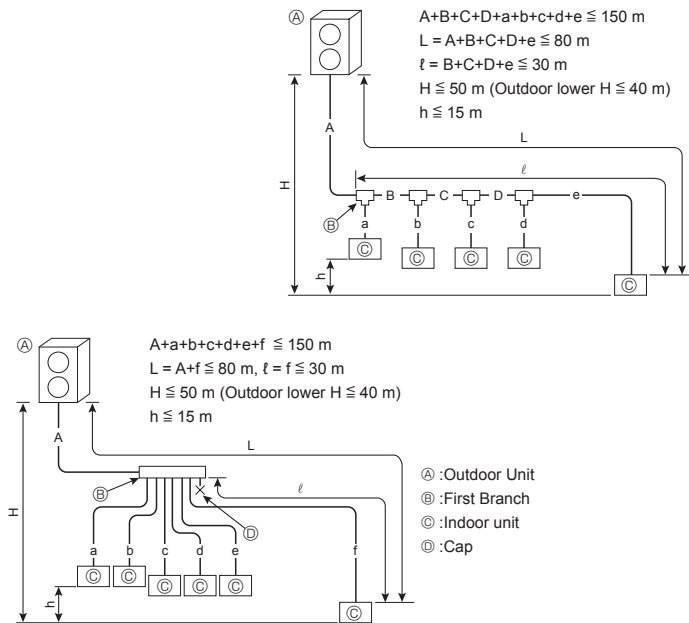

Fig. 4-1
4.1.1. Connection without Branch box (Fig. 4-1)